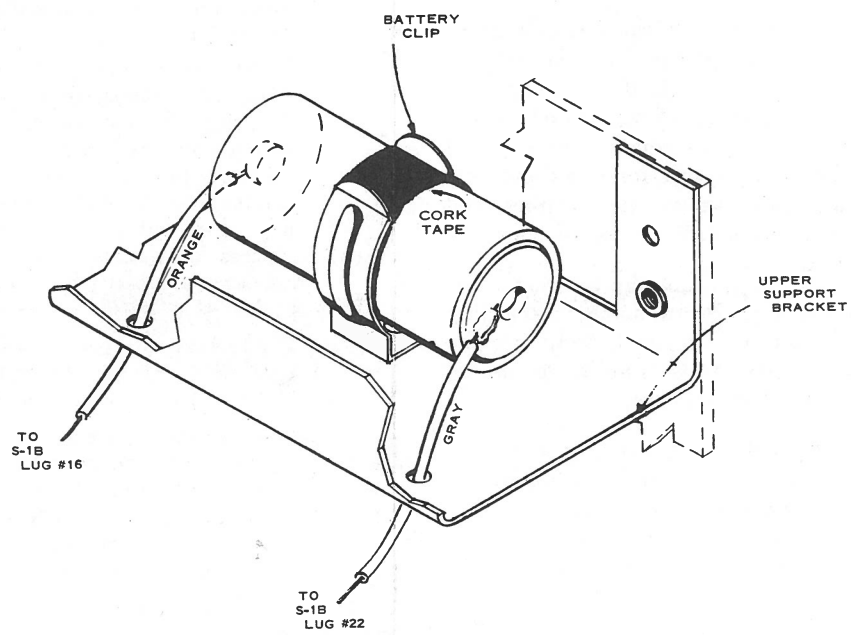

FIGURE 23
34. ☐ Remove the covering from the sticky side of the 4-inch length of cork tape. Wrap the tape around the center of the battery as shown in Figure 23. Place the battery in the clamp on the upper support bracket, in the position indicated on the bracket (battery cap inside).
35. ☐ Identify the orange wire previously connected to S-1, wafer B, lug #16, with the free end passing through the hole in the upper support bracket, near the battery cap. Solder this wire to the battery cap, as shown in Figure 23.